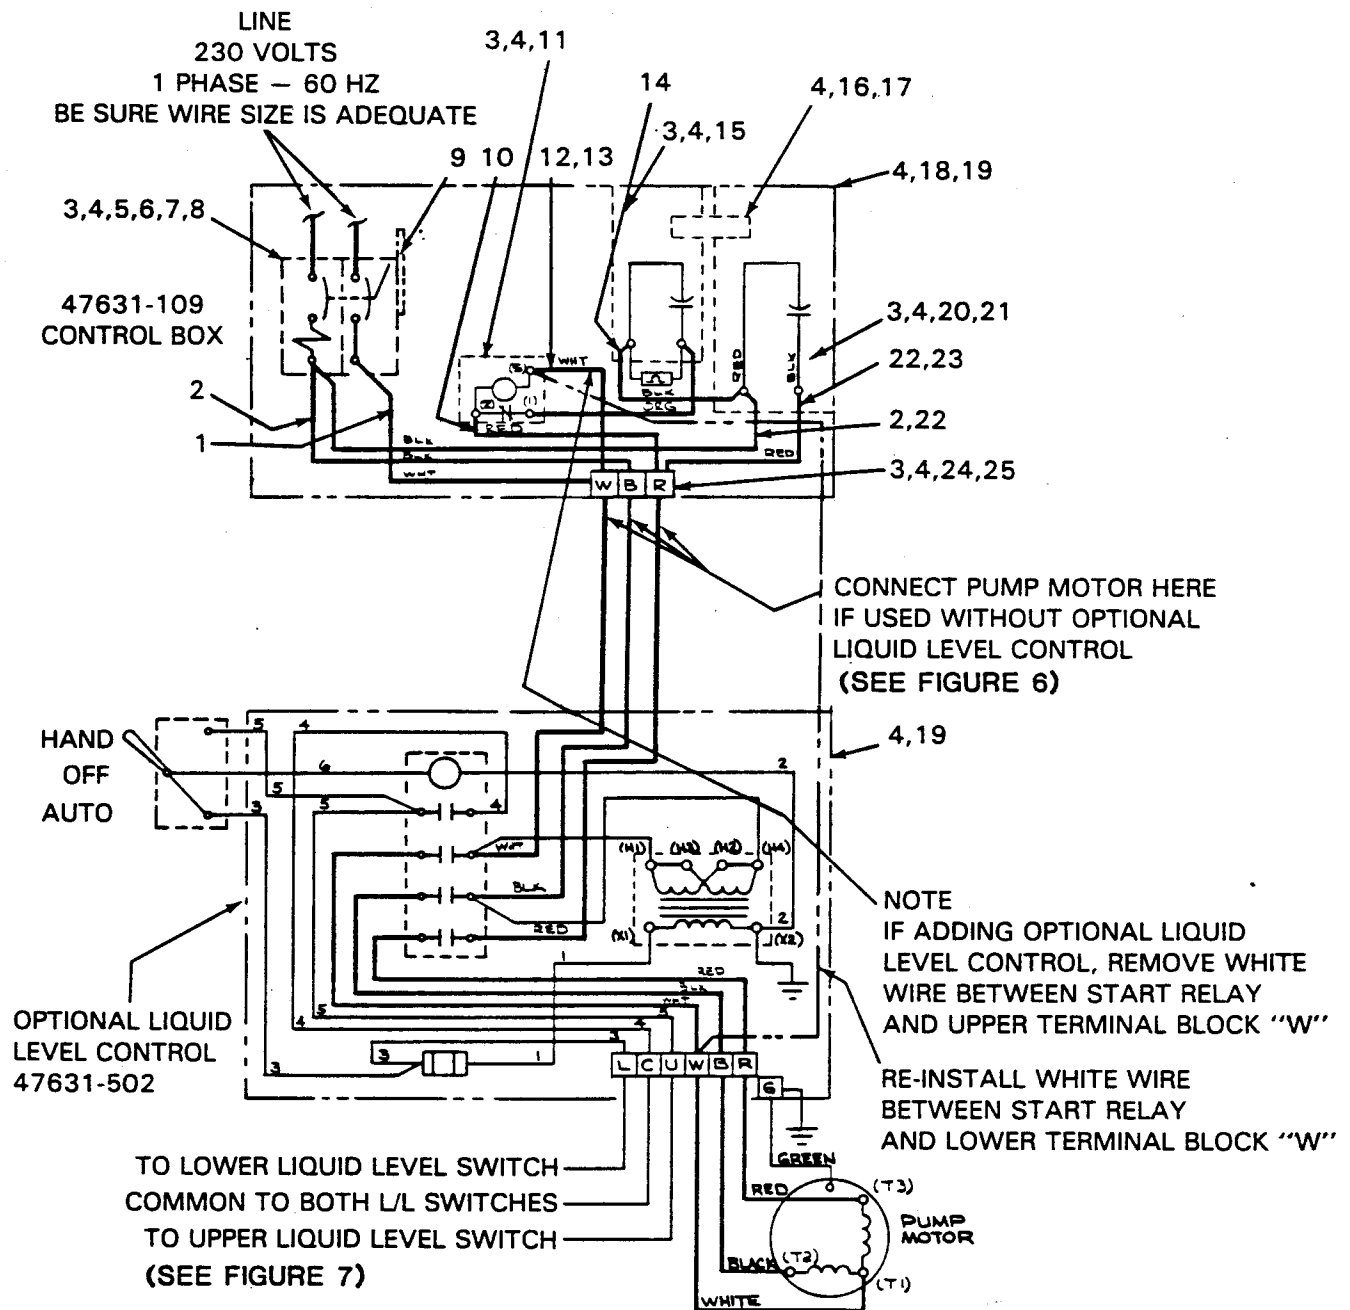

Figure 8. 47631-109 Control Box Assembly - Pictorial Wiring Diagram
- a. Measure the incoming voltage across lines (1 & 2.) while the pump is **operating at full capacity**. See Figure 6 on page B-14 or Figure 8 on page B-15.
Connect the pump power cable to the control box as shown in Figure 6 on page B-14 or Figure 8 on page B-15. Use conduit or cable clamps to secure the power and